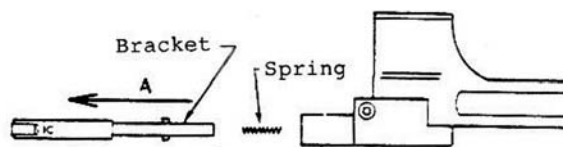

Figure 11
3. Pull out bracket in direction labeled A, Figure 11. Be careful not to lose spring.